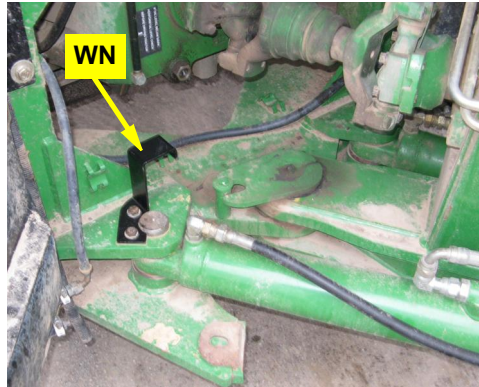

Figure 2b: Installed WAS mounting bracket
- b. Using the removed pin bolts, install the WAS assembly mounting bracket **WN** (Figure 2b).